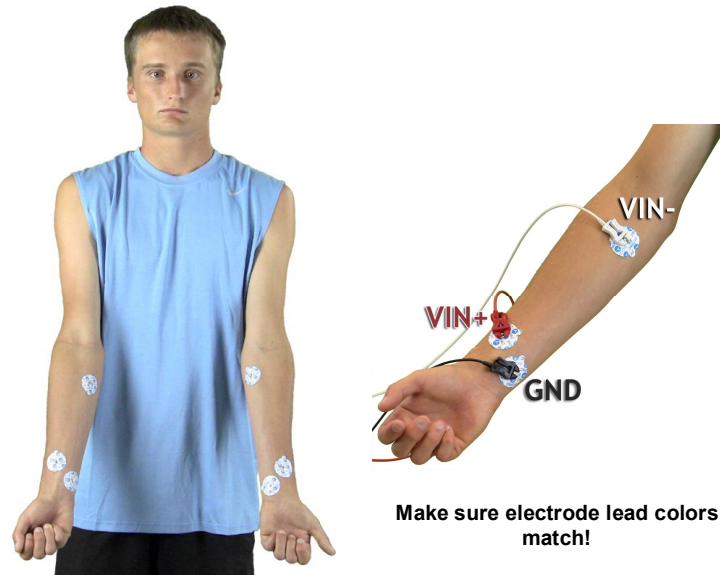

Fig. 2.6 Electrode Placement & Lead Attachment
5. **Attach three electrodes** to each forearm (Fig. 2.6).
6. **Clip** the Electrode Lead Set (SS2L) to the **Subject's** dominant forearm, following the color code (Fig. 2.6).
Clip the Lead Set (SS2L) to the **Subject's** dominant forearm (Fig. 2.6) for recordings 1 and 2.